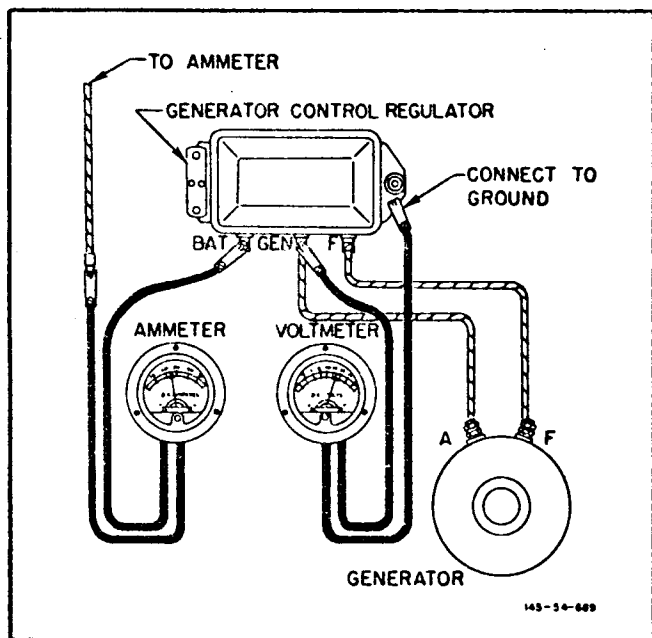

Figure 48 - TEST SETUP FOR ADJUSTING CUTOUT RELAY
2. Connect ammeter and voltmeter leads as shown in figure 48.